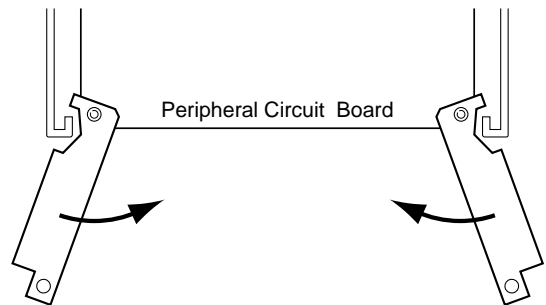

Fig. 3.4.2 Installing the Peripheral Circuit Board
- (1) Unfasten the screws located on the left and right sides of the front panel of the S5U1C63000H1 by turning them counterclockwise, then remove the front panel.
- (2) Insert the Peripheral Circuit Board into the uppermost slot and push it using the jig attached with the S5U1C63000H1 as shown in Figure 3.4.2.